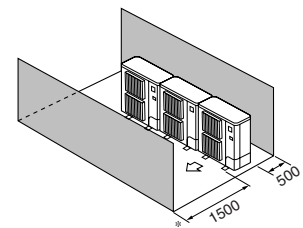

Fig. 3-14
- ④ Obstacles at front and rear only (Fig. 3-14)